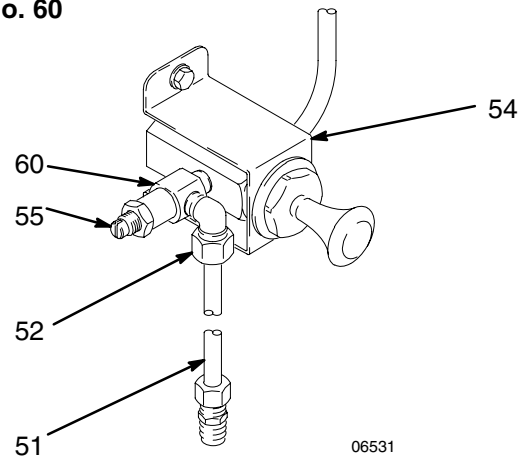

Fig. 5
Screw the restrictor valve (55) into the push-pull valve (60) as shown in Fig. 5. Mount the valve on the wall at a convenient height, using the mounting bracket (54). Connect the master air supply to the valve. Screw the elbow fitting (52) into the 1/8 npt(f) inlet of the restrictor valve. Push one end of the copper tube (51) into the elbow and tighten the fitting. Screw the straight fitting (53) into the base (17 or 22) of the elevator. Push the other end of the copper tube (51) into this fitting and tighten the fitting.